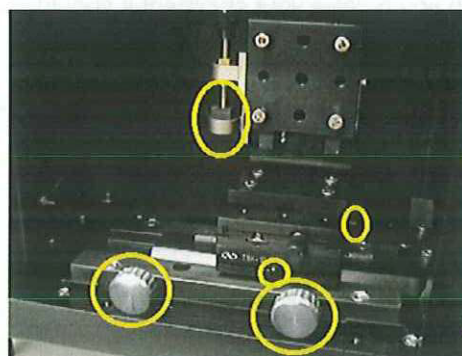

Figure 2 - 2
5. Remove the four bolts (red LED unit) or 3 bolts (green unit, the bottom left bolt is omitted) on the vertical stage. (Figure 2 - 3)